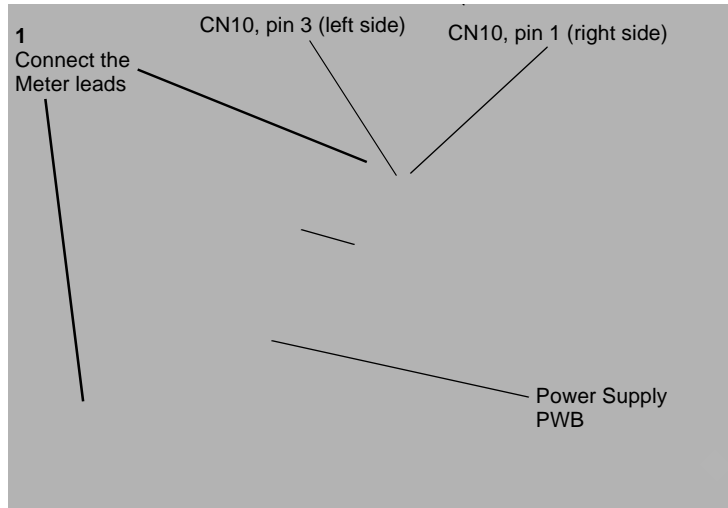

Figure 1 Adjusting the Developer Bias Voltage
2. (Figure 1): Connect the positive lead to connector pin CN10-1